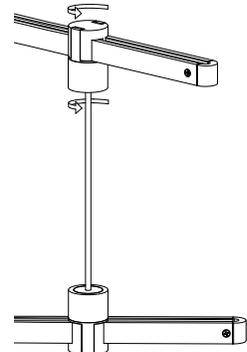

Fig. 11
4. Rotate Power Bar to the desired position and secure by fully tightening the Hanger sleeve. (Fig. 11)